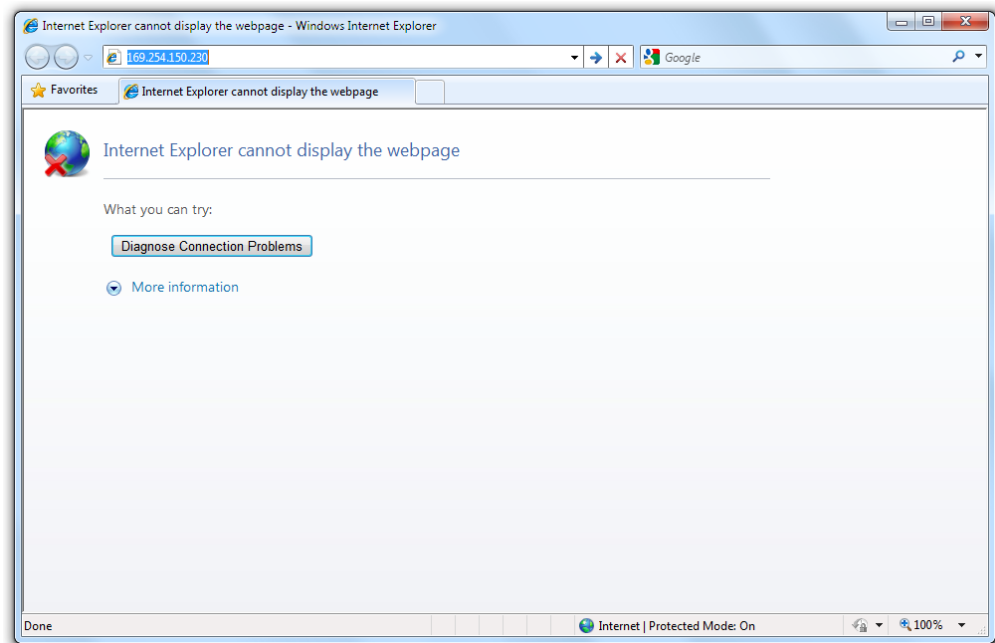

Figure 2-2, Initial Browser Window
- 7) Open a browser session on the computer. Since there is no connection to the internet you will not see the normal opening page, but an error message. If using Internet Explorer the message will be as shown in figure 2-2